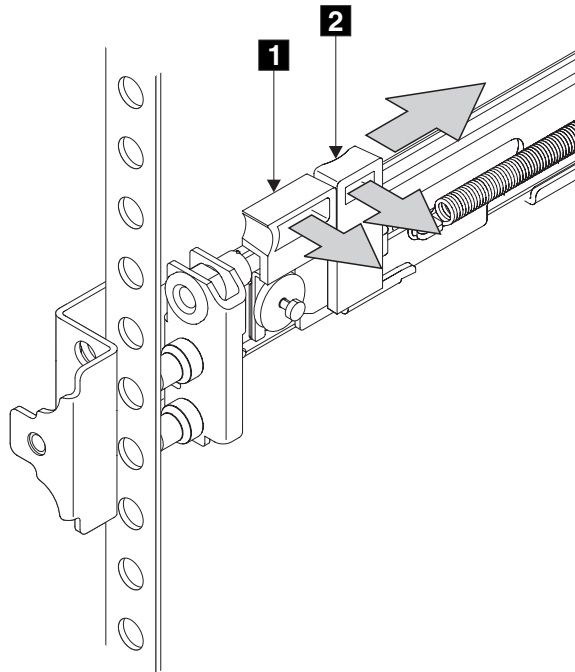

Figure 115. The left support rail for the SAN Volume Controller
- Put your left index finger onto the back edge of the latch lever **2** and your left thumb on the front edge of the latch lock **1**, as shown in Figure 115.